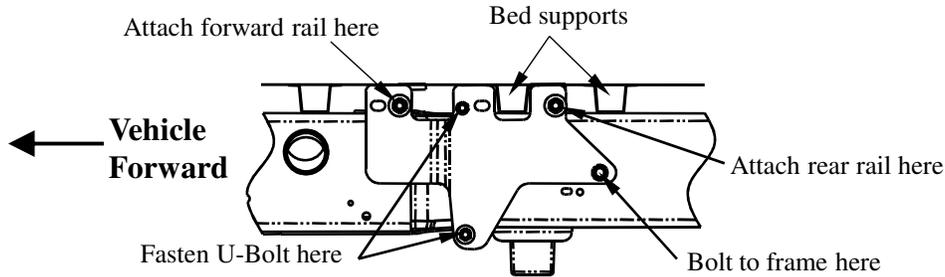

Figure 8
7. Line up the mounting holes on the frame brackets with the threaded studs on the ends of the rails. See Figure 8 to identify which holes on the frame brackets to use. Loosely attach frame brackets to rails with 5/8" hex nuts and conical toothed washers as shown in Figure 6.